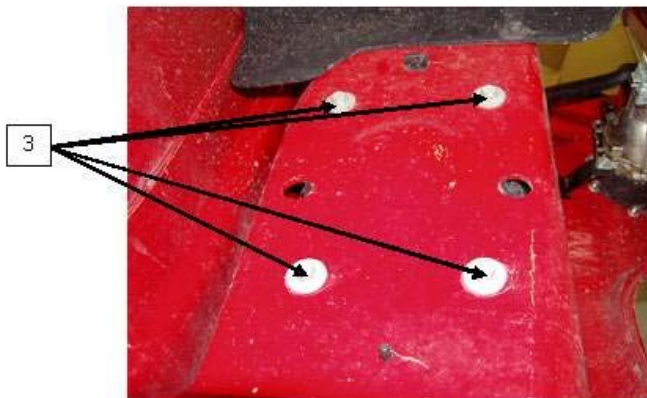

Figure 29 Headlight Assembly Mounting Bolts
Refer to Figure 29 for items in parentheses.
5. Secure headlight assembly from the back with four headlight mounting bolts (Item 3, Figure 29).